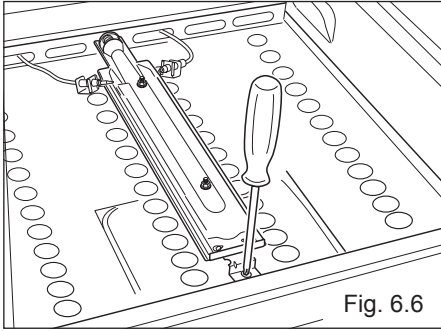

Fig. 6.6
- Remove the burner securing screw (fig. 6.6)